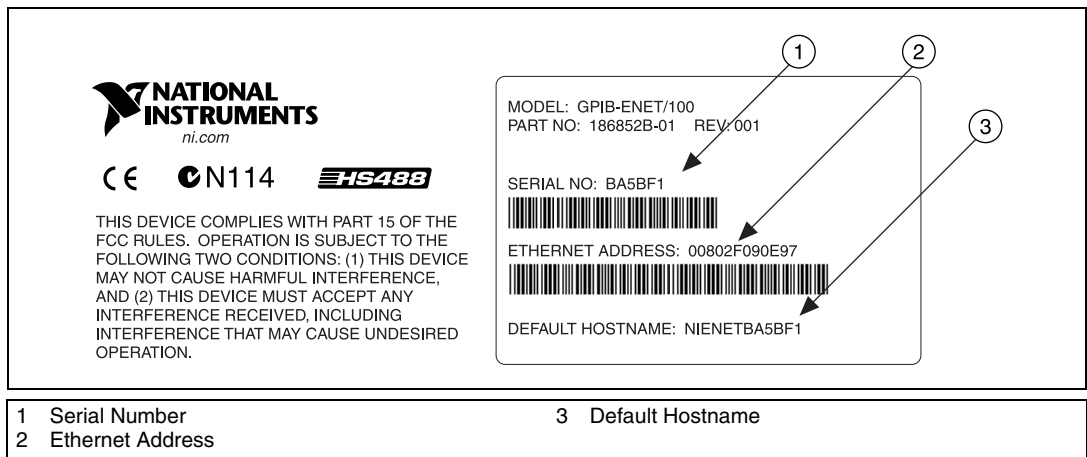

Figure 2-3. GPIB-ENET/100 Baseplate Identification Label
1. Locate the serial number, Ethernet address, and default hostname on the GPIB-ENET/100 baseplate label, as shown in Figure 2-3.